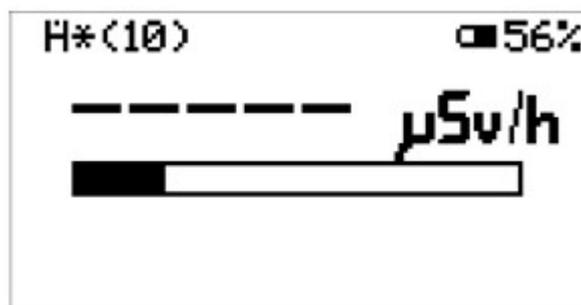

Fig. 15) Display in run-in mode for the measuring mode $\mu\text{Sv/h}$.
For dose rate equivalent measurements, the meter switch (15) must be adjusted to the position " $\mu\text{Sv/h}$ " or " mSv/h " after the electrical zero adjustment has been carried out. In doing so, the device switches to the run-in mode (see fig. 15).